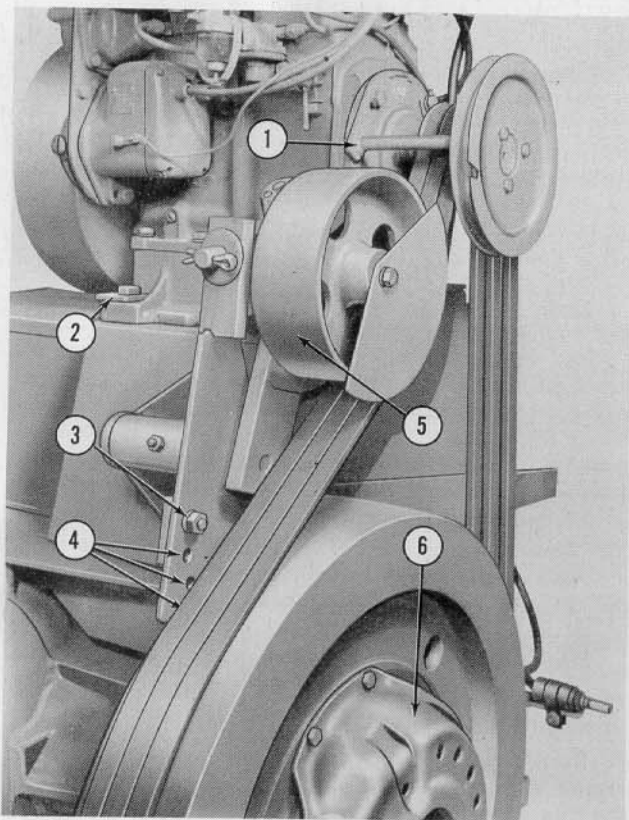

Figure 12
V-Belt Guide: Adjust the belt guide (1), Figure 12, to clear the belts approximately $\frac{1}{8}$ inch when the idler pulley (5) is engaged as shown. If the guide is not properly adjusted, the V-belts may tend to turn the flywheel, even when the idler pulley is disengaged.
1. Belt tension may be increased by relocating the bolt (3), Figure 12, in the lower adjusting holes (4) provided in the idler arm.
2. If still greater tension adjustment is desired, the engine may be raised by means of the spacers (2), Figure 12, located on each engine mounting bolt.
Flywheel Safety Clutch: A pre-set, automotive type friction clutch (6), Figure 12, is provided on both engine and P.T.O. driven baler flywheels to prevent damage to the baler if the plunger becomes overloaded. The clutch does not require adjustment, however, during short storage periods between crops and at the end of each season, the pressure on the clutch